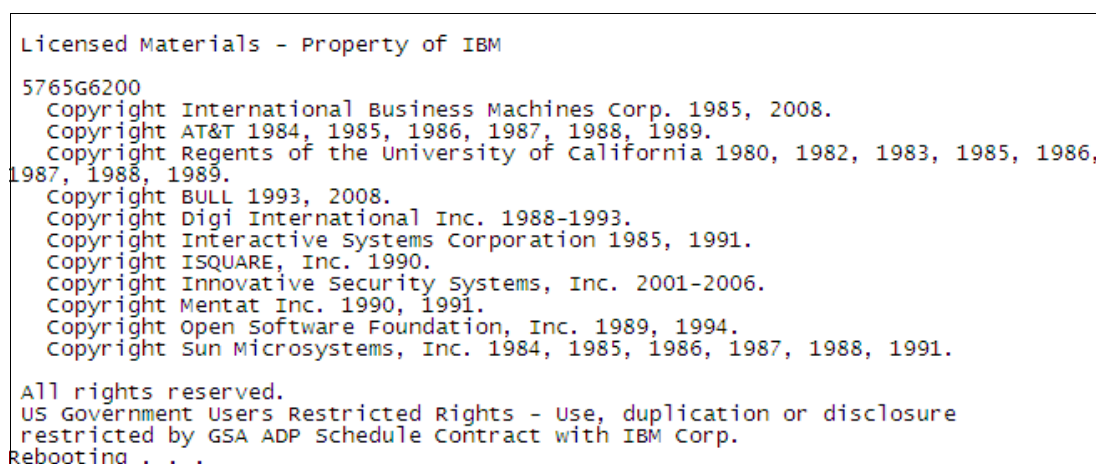

Figure 5-150 Installation Complete
12.After going through automated installation phases, it will show the copyright information of the AIX software, then reboot the system, as shown in Figure 5-150.